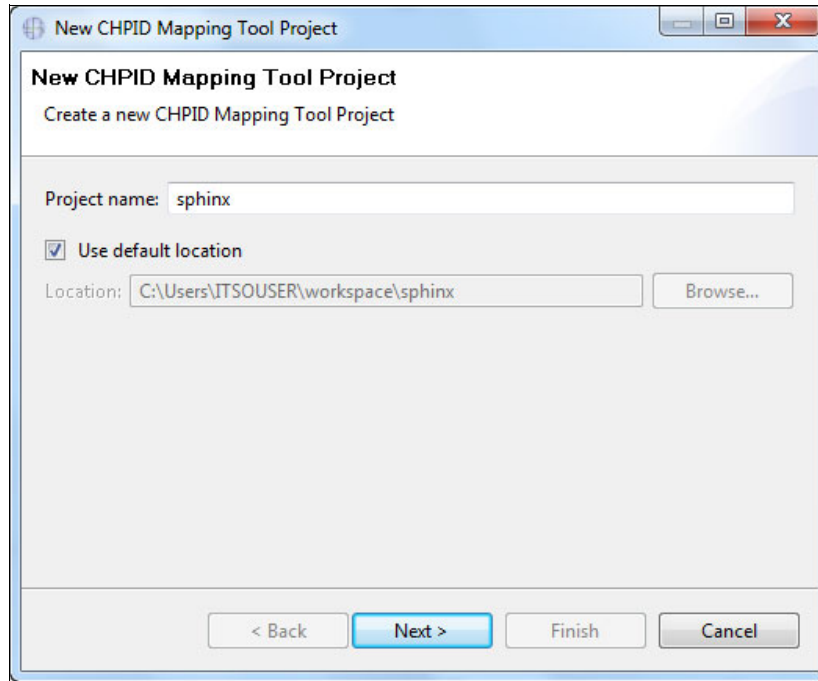

Figure 8-52 CMT - New CHPID Mapping Tool Project name
3. The New CHPID Mapping Tool Project window opens (Figure 8-52). Use this window to specify a project name and then click **Next**.